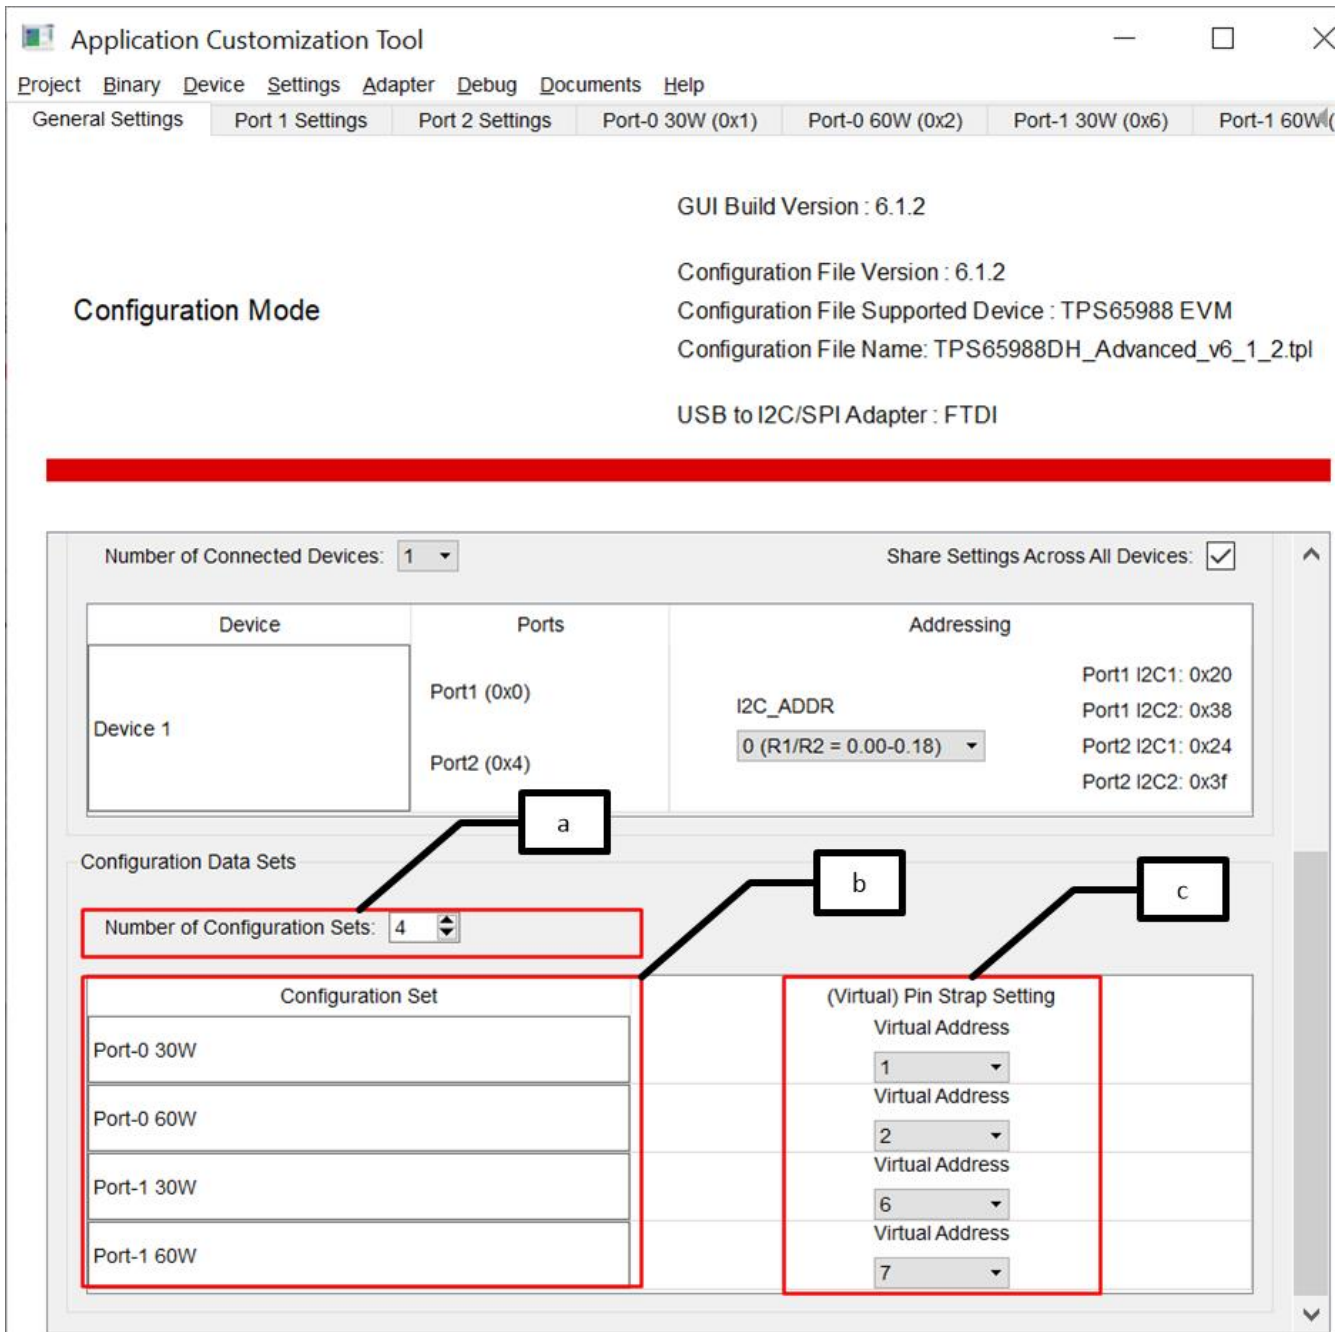

Figure 2-8. Generate Configuration Sets and Map to Virtual Address
- c. Now, map Configuration sets to *Virtual Address* as shown in Figure 2-8.